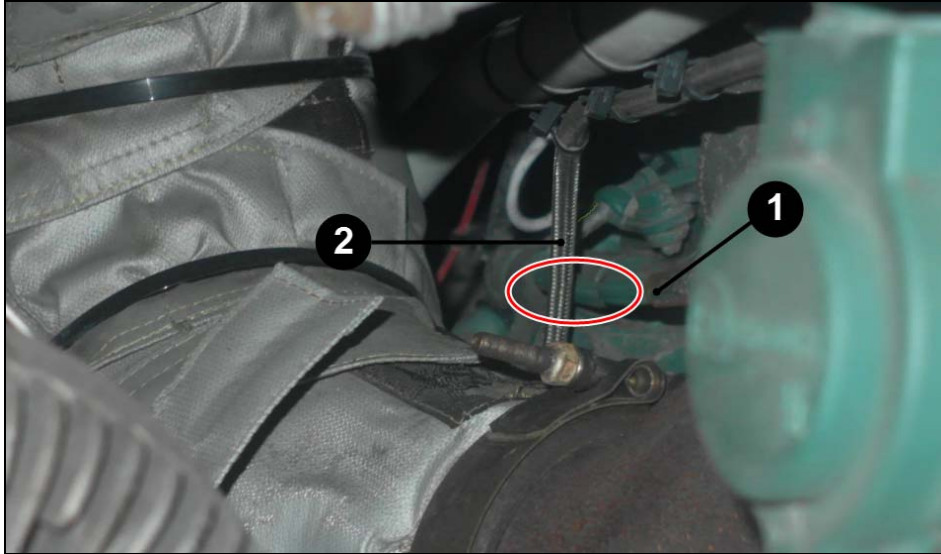

FIGURE 3: MISSING DOUBLE LOOP NYLON TIE
- 4) If, as in FIGURE 3 , **the nylon tie is missing or an inappropriate nylon tie is installed** (standard nylon tie as shown on FIGURE 5), there is a risk that the injector's hard fuel line be damaged by rubbing against the coolant line. The AHI's hard fuel line must be checked and if damaged, it must be replaced.